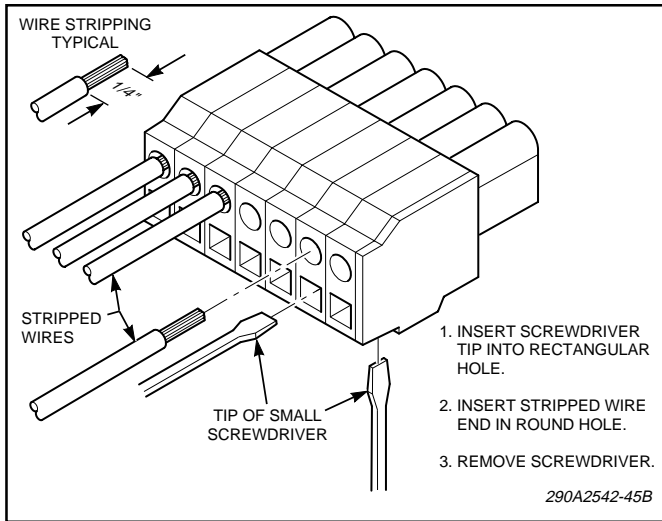

Figure 3.
To avoid damage and ensure proper operation, the red and black wires **MUST** be installed in the six-position connector as shown in figure 3.
- a. Strip 1/4" of insulation off of each wire. See figure 3. Use small blade screwdriver to depress spring in connector, insert proper wire and remove screwdriver to release spring.
- b. Connect the red and black 14-gauge wires to the connector as shown in figure 3.
- d. Connect the 18-gauge red and green wires to the connector as shown in figure 3.
To avoid damage and ensure proper operation, the wires **MUST** be installed in the six- position connector as shown in figure 3.